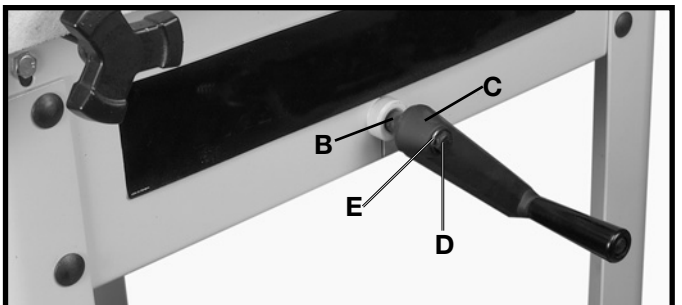

Fig. 6
3. Fasten elevating handle (C) Fig. 6, to shaft (B) with a 1/4"-20 x 1/2" hex head screw (D) and 1/4" flat washer (E).